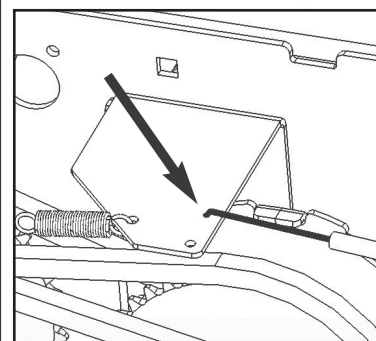

Figure 6
- B 1. Weave the end ("Z" bend) of the cable through the inner hole on the Egress Actuation Bracket on the Operator (Figure 6).